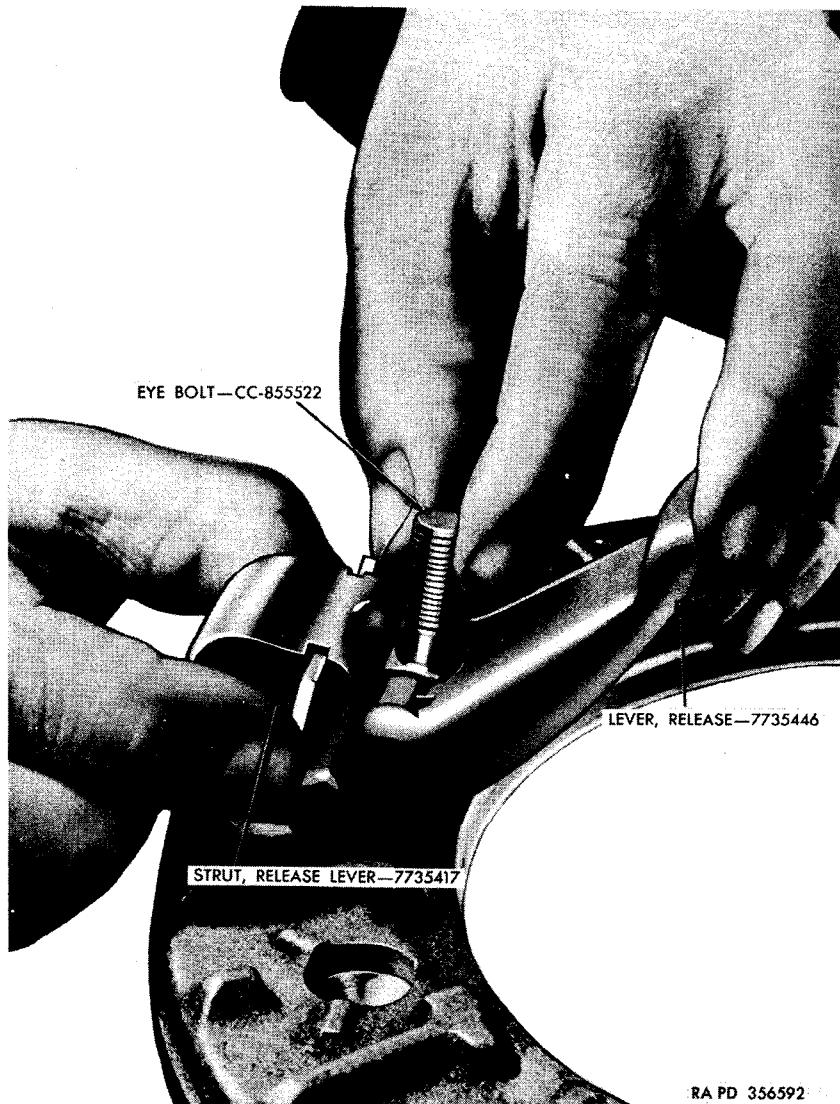

Figure 101.. Removing or installing release lever.
c. Dissassembly of Pressure Plate and Cover. Remove the three eye bolt nuts. Release the cover with the clutch rebuild 41-C-2480 according to the instructions of the tool manufacturer. Remove the cover and detach the release lever spring from the pressure plate. Remove the release levers (fig. 101) by holding the eye bolt, while lifting the inner end of the release lever as high as possible. Press down on the eye bolt to keep it in its socket and lift the release lever strut over the ridge at the outer end of the lever. Lift the eye bolt off
- (1) *Installing eye bolts and release levers.* Place the pressure plate in a convenient working position and lightly coat the release lever pin, the plain end of the eye bolt, and the edges of the release lever strut with general purpose lubricant GAA. Install lever pin in the eye bolt. Place the release lever over the threaded end of the eye bolt so the groove of the lever fits over the lever pin. Hold the threaded end of the eye bolt (fig. 101) and raise the inner end of the lever as high as possible. Place the lever strut in the slot of the pressure plate lug. Lift the strut up into the lug slot and tilt it so it will pass the ridge on the lower end of the lever. Drop it into the groove in the lever. Follow this procedure with the other two eye bolts and lever parts.
- (2) *Assembling cover to pressure plate.* Place the compression springs over the bosses of the pressure plate. Assemble the